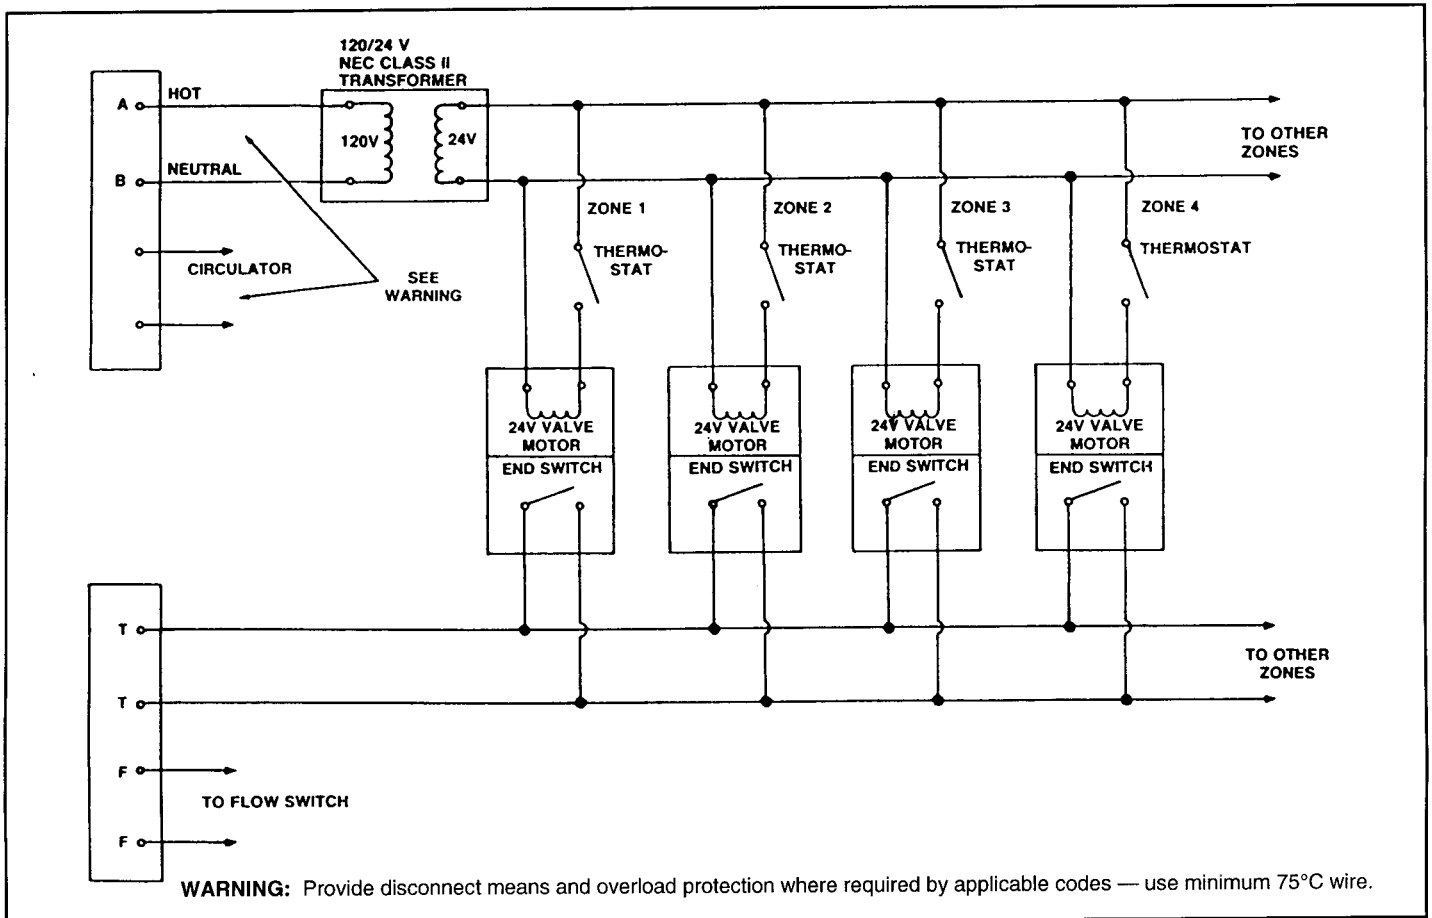

Figure 6. Typical Zone Valve Wiring
- Wire the circulator and connect wires and conduit through 1/2" K.O. provided on bottom left hand corner, to the terminal board marked, "Circulator". Wire zone valve transformer to terminals "A" and "B" of this terminal board (see Figure 6) if zone valves are used. Use 75°C. minimum wire, copper or aluminum.